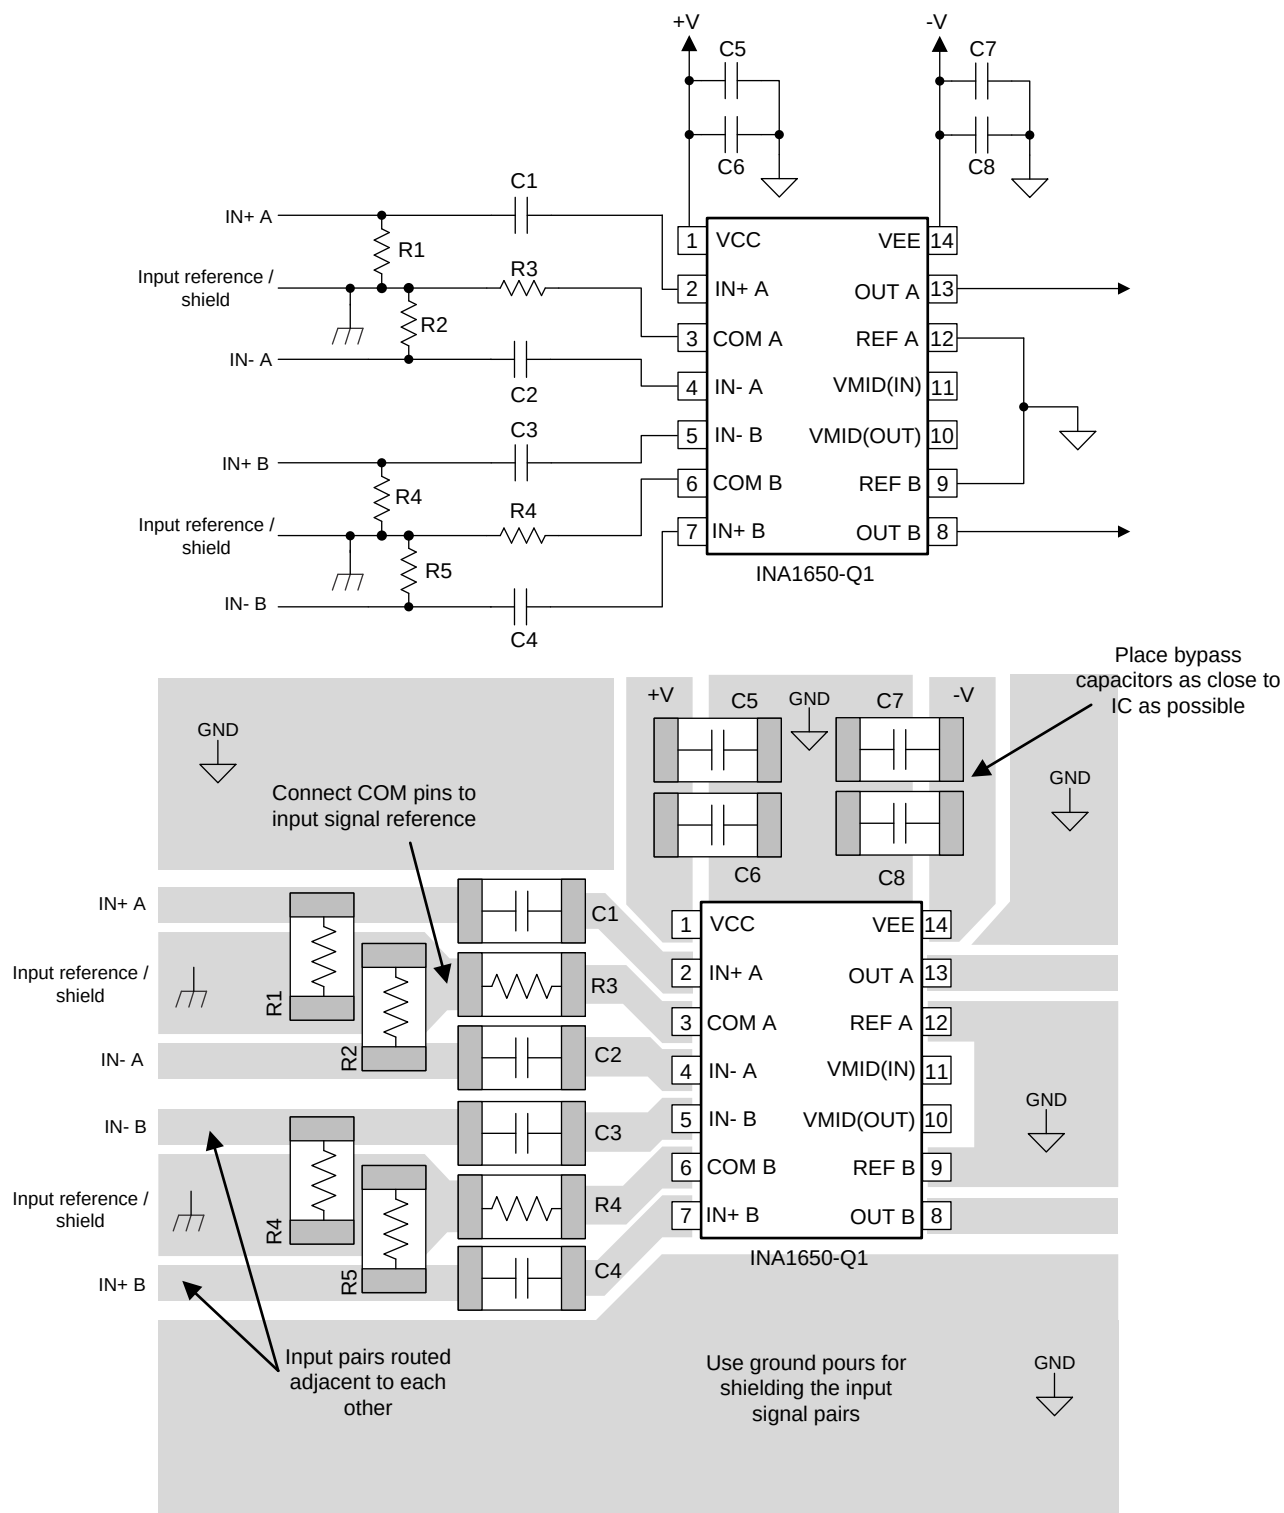
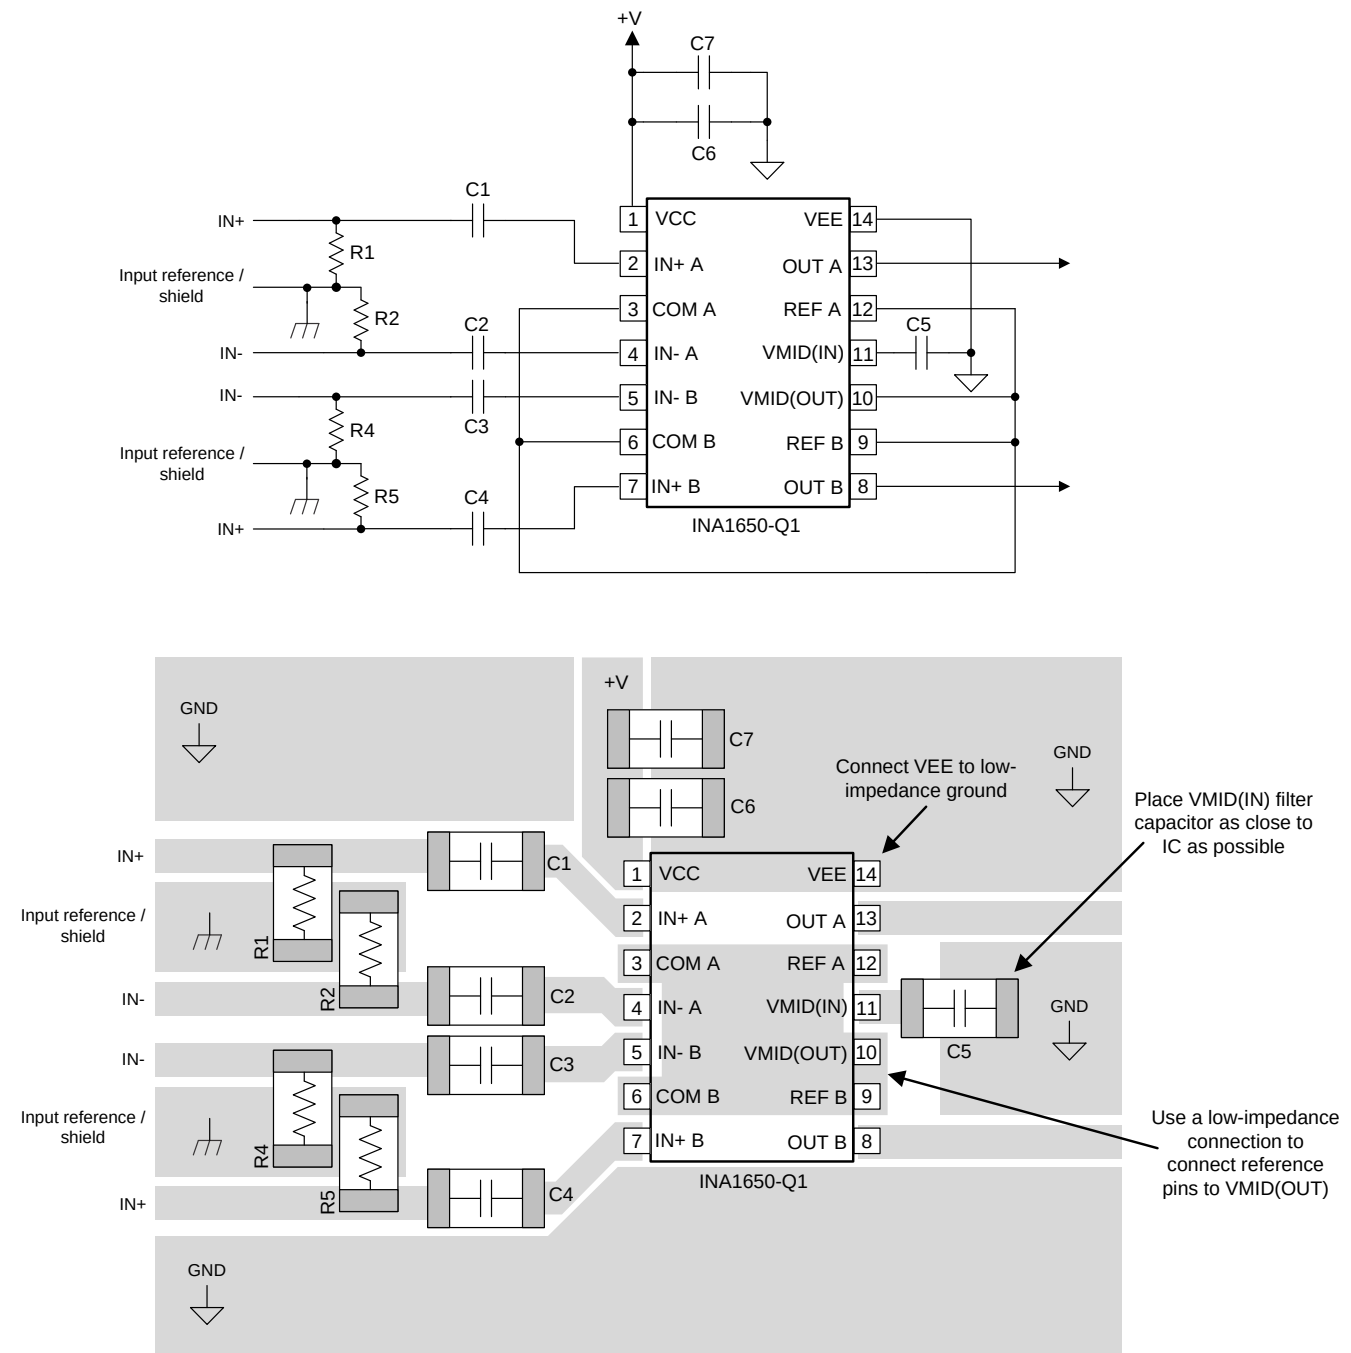

图 62. Layout Example for a Dual-Supply Line Receiver
图 63. Layout Example for a Single-Supply Line Receiver
- Place the external components as close to the device as possible, as shown in 图 62 and 图 63.